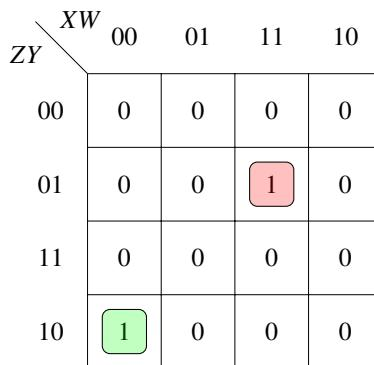

Fig. 4.4: K-map for  $D$
9. Minimize (4.8) using Fig 4.4